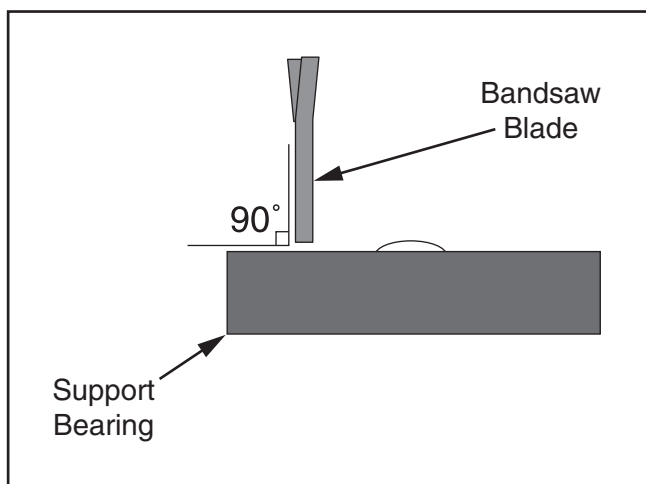

Figure 26. Support bearing 90° to the blade.
5. Loosen the guide block cap screws, then rotate the blade guide assembly side to side until the face of the support bearing is perpendicular (90°) to the blade, as illustrated in **Figure 26**.